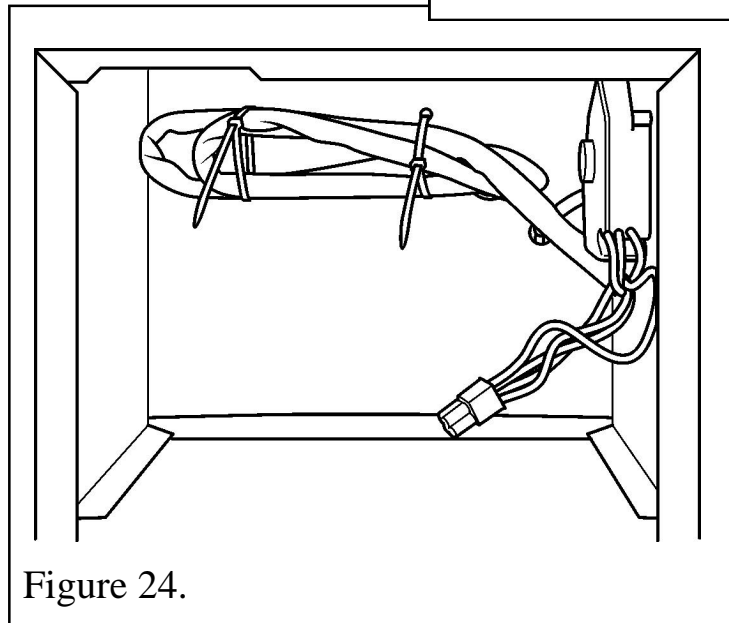

Figure 24.
3. Stow the excess cable as shown in figure 24. Leave about 200mm of free length for fan motor connection. Secure the stowed cable inside the fan box with cable ties.